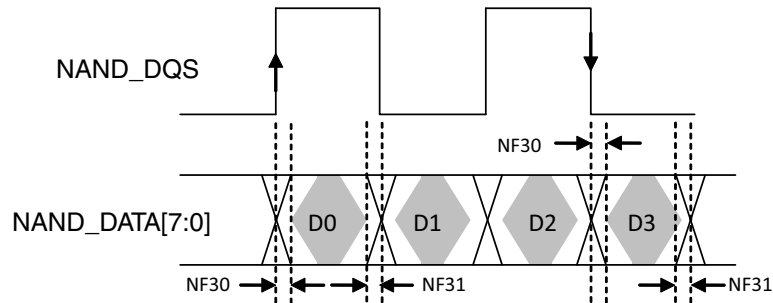

Figure 33. NAND_DQS/NAND_DQ Read Valid Window
For DDR Source sync mode, Figure 33 shows the timing diagram of NAND_DQS/NAND_DATAxx read valid window. The typical value of tDQSS is 0.85ns (max) and 1ns (max) for tQHS at 200MB/s. GPMI will sample NAND_DATA[7:0] at both rising and falling edge of an delayed NAND_DQS signal, which can be provided by an internal DPLL. The delay value can be controlled by GPMI register GPMI_READ_DDR_DLL_CTRL.SLV_DLY_TARGET (see the GPMI chapter of the i.MX 6Solo/6DualLite reference manual). Generally, the typical delay value of this register is equal to 0x7 which means 1/4 clock cycle delay expected. But if the board delay is big enough and cannot be ignored, the delay value should be made larger to compensate the board delay.
- ⁷ Shown in Figure 33, NAND_DQS/NAND_DQ Read Valid Window.
For DDR Toggle mode, Figure 33 shows the timing diagram of NAND_DQS/NAND_DATAxx read valid window. The typical value of tDQSQ is 1.4 ns (max) and 1.4 ns (max) for tQHS at 133 MB/s. GPMI will sample NAND_DATA[7:0] at both rising and falling edge of a delayed NAND_DQS signal, which is provided by an internal DPLL. The delay value of this register can be controlled by GPMI register GPMI_READ_DDR_DLL_CTRL.SLV_DLY_TARGET (see the GPMI chapter of the i.MX 6Solo/6DualLite reference manual). Generally, the typical delay value is equal to 0x7 which means 1/4 clock cycle delay expected. But if the board delay is big enough and cannot be ignored, the delay value should be made larger to compensate the board delay.